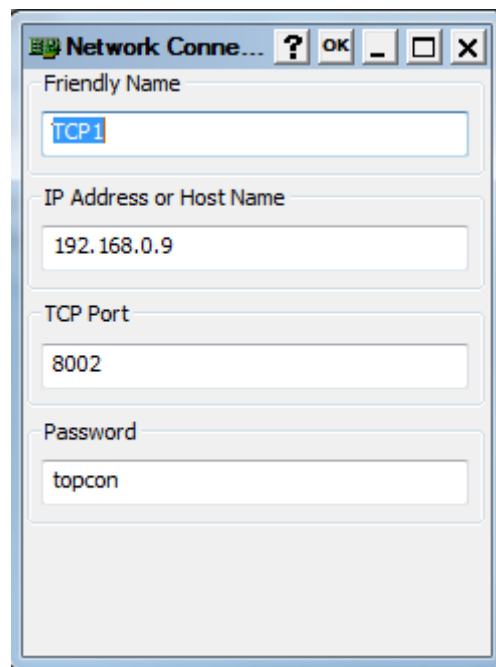

Figure 25: Network Connection Parameters
- If needed, right-click on the desired port and click **Edit**. The **Network Connection Parameters** screen appears (Figure 25).